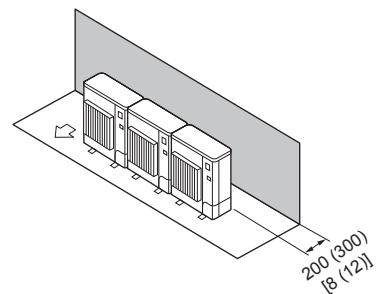

Fig. 2-12
① Obstacles at rear only (Fig. 2-12)